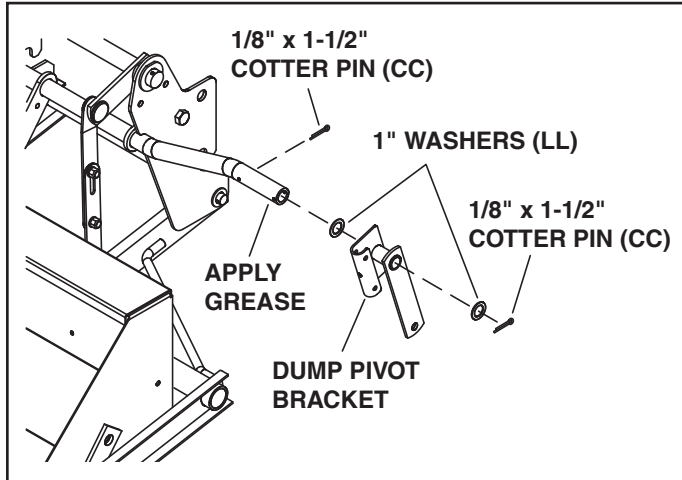

FIGURE 8
(SEE FIGURE 8)**
- Install a 1/8" x 1-1/2" cotter pin (CC) to the inside hole in the shaft shown in figure 8, and then install a 1" washer (LL) onto the shaft. Apply grease to the end of the shaft and install the dump pivot bracket assembly onto the shaft. Install a 1" washer (LL) onto the shaft and secure it using a 1/8" x 1-1/2" cotter pin (CC).